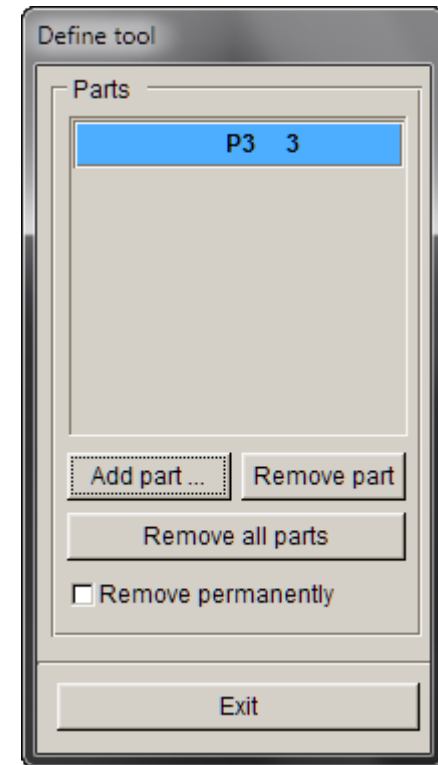

Figure 34
6. Click **Exit** to accept the selected part. (Figure 34).